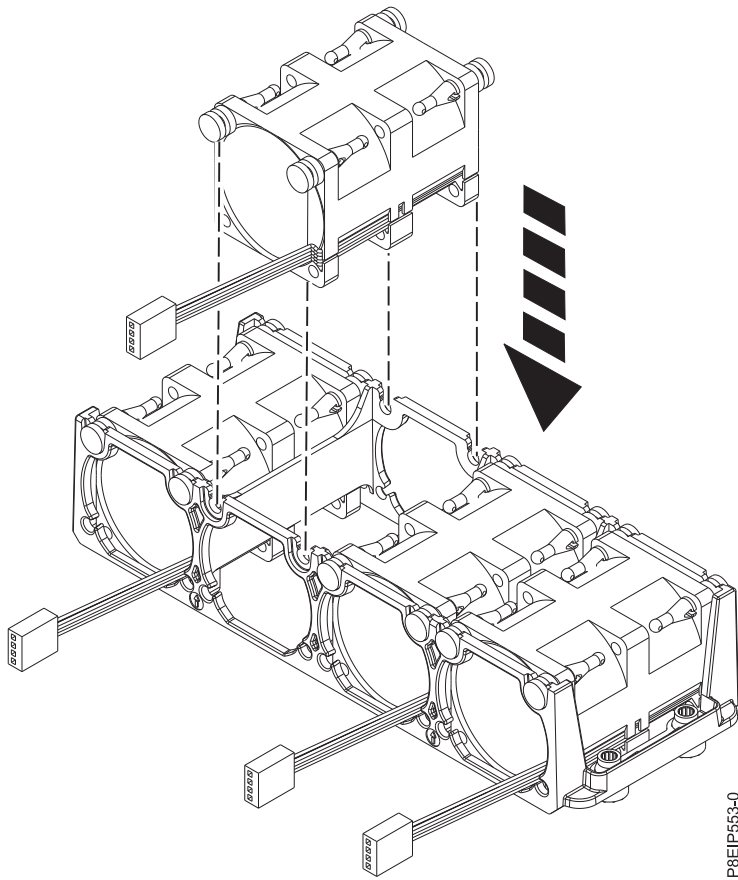

Figure 14. Replacing a fan
2. With the fan holder lifted, push the fan into the housing as shown in Figure 14 on page 18. Pass the fan wires through the fan holder. Align the standoffs in the fan with the slots in the fan holder.